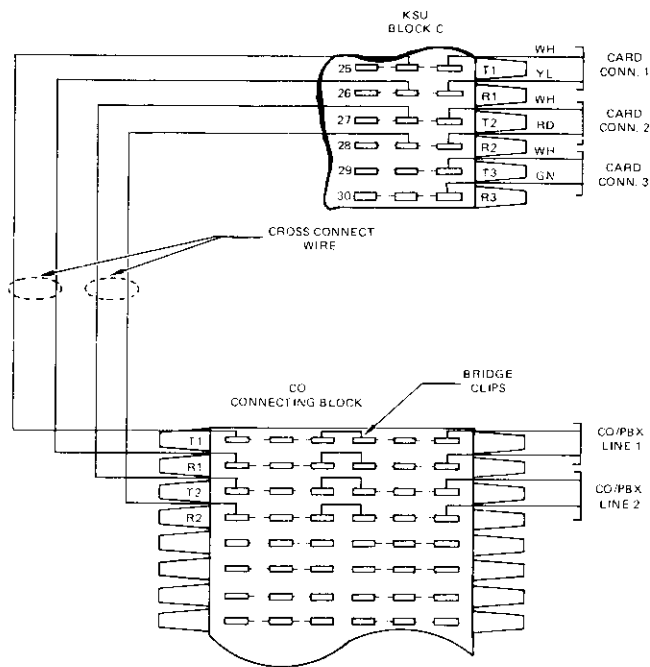

Figure 9: Connecting Details, Line KTU to CO/PBX Line
4.13 On KSU connecting block C, locate the T_n and R_n terminals associated with the card connector into which the line KTU was inserted. Cross-connect these terminals to the CO connecting block on the MDF for connection to the CO/PBX line. Use bridging clips to complete the connection to the CO/PBX line. (Refer to Figure 9 for connecting details.)